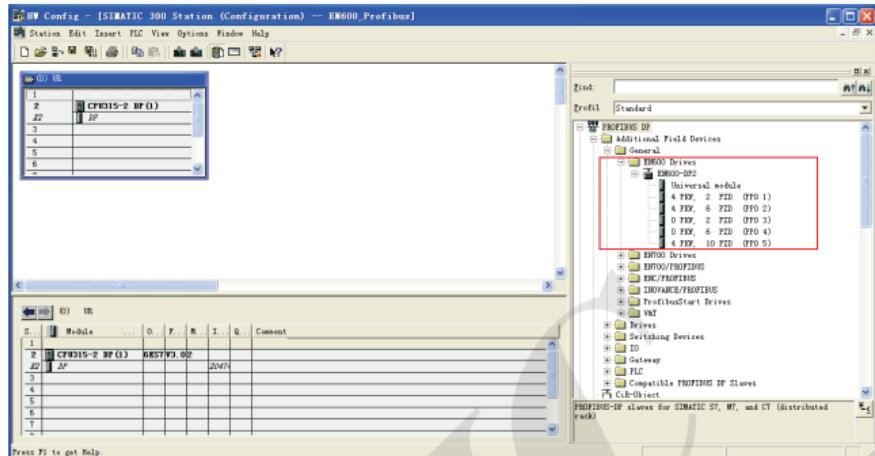

Fig.3-8
(4) After complete the installation of EN600DP2.GSD successfully, you can see EN600 DP related information in the "Catalog" on the left side. As shown in Fig.3-8: